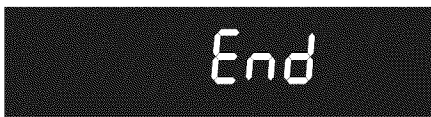

Figure 26: Display showing cooking has ended
**End** will appear in the display window and the oven will shut-off automatically (Figure 26). The oven control will beep three times every 30 seconds as a reminder until  is pressed.
**End** will appear in the display window and the oven will shut off automatically (See Figure 26). The oven control will beep 3 times every 30 seconds as a reminder until  key is pressed.